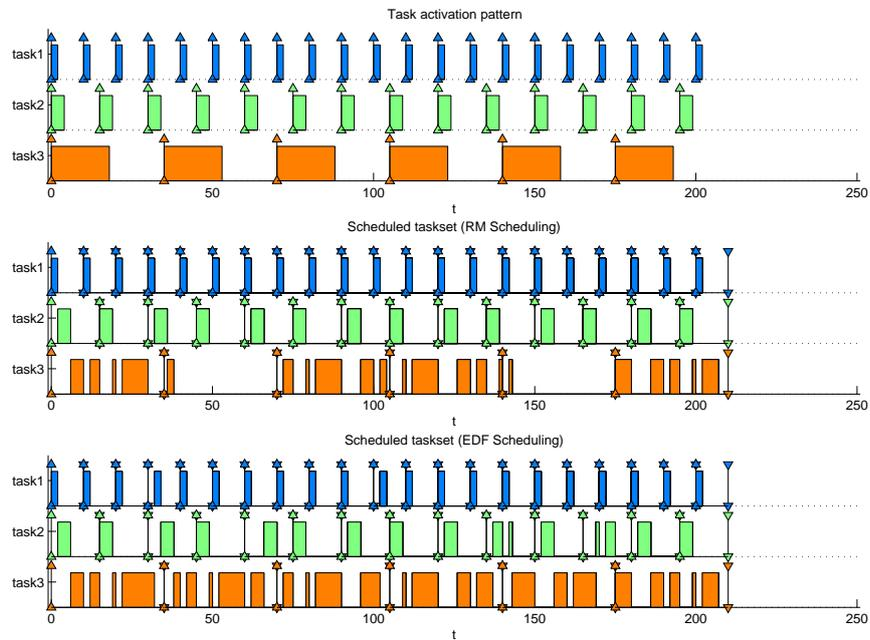

Figure 4: Taskset with $U = 0.9810$, scheduled using the RM and EDF scheduling algorithms
4. Now, increase the WCET of τ_{task3} from 10 to 18 time units and run the simulation again. The new taskset should be schedulable using EDF, but not with RM. If your algorithm is correct, the resulting schedule should be the one depicted in Figure 4.